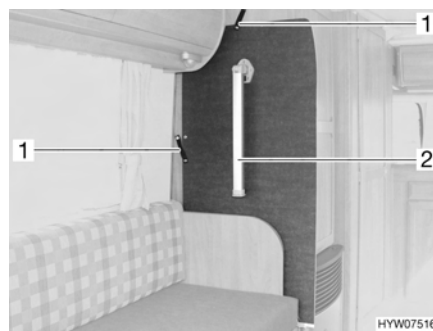

Fig. 25 Suspension table in the holder
- Push the suspension table with the table leg (Fig. 25,2) backwards in the holder between seating group and cabinet (Fig. 25).
- Secure the suspension table with the securing straps (Fig. 25,1).